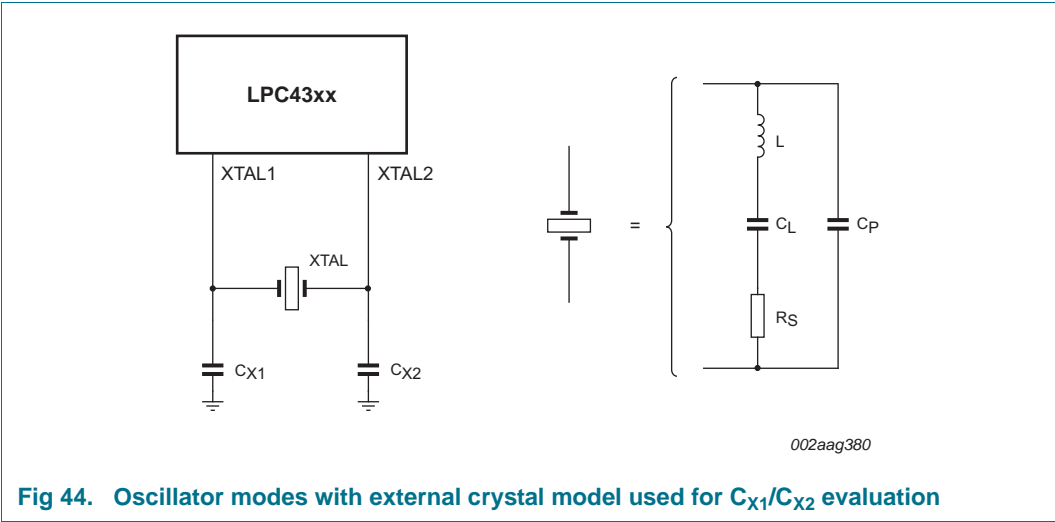

Fig 44. Oscillator modes with external crystal model used for C_{X1}/C_{X2} evaluation
- External components and models used in oscillation mode are shown in Figure 44, and in Table 41 and Table 42. Since the feedback resistance is integrated on chip, only a crystal and the capacitances C_{X1} and C_{X2} need to be connected externally in case of fundamental mode oscillation (L , CL and RS represent the fundamental frequency). The capacitance C_P in Figure 44 represents the parallel package capacitance and must not be larger than 7 pF. Parameters FC , CL , RS and CP are supplied by the crystal manufacturer.